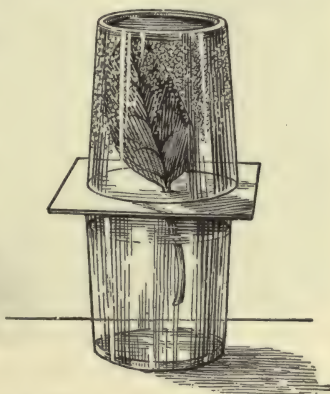

FIG. 309. — Through transpiration water collects in the upper glass.
**Leaves keep the air moist.** — Plants require soil food and get it by absorbing water in which minerals are dissolved. The amount of minerals dissolved in ground water is very small, and the roots must absorb enormous quantities of water in order that the plant may get the required amount of mineral matter. The large quantity of water taken in by the roots passes upward through the stems and finally reaches the leaves. Some of this water is used in starch making and the rest is given off through pores in the leaves. This giving off of water through leaf pores, or stomata, is known as transpiration (Fig. 309). Most of us have no correct idea of the quantity of water absorbed by the roots and released by the leaves. It has been calculated that a large, healthy oak tree has about 700,000 leaves and that it throws off to the air